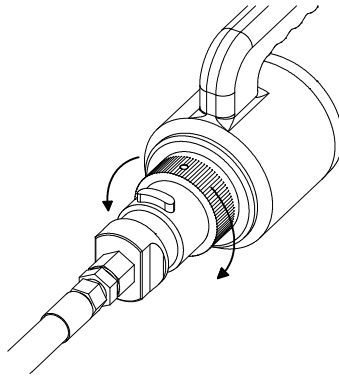

Figure 11. Collar for FWD, OFF or REV operation.
All tools are fitted with a direction collar, see Figure 11.
1. Turn the collar, Figure 11, to select direction.